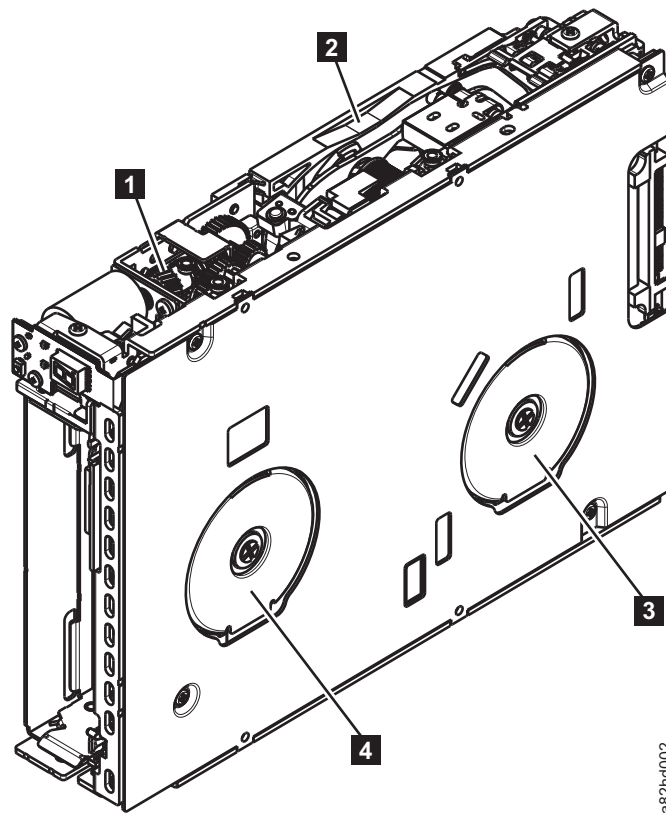

Figure E-6. Rewinding tape into cartridge
**Attention: DO NOT TOUCH THE OUTER GUIDE RAIL ( **2** in Figure E-6 on page E-7). THIS RAIL IS VERY DELICATE AND EASILY DAMAGED.**
- Turn the supply reel ( **4** in Figure E-6) clockwise, allowing the moistened tape to adhere to the hub as it winds around the supply reel (inside the cartridge).
- Continue spooling into the cartridge until the tape is taut and remains within the flanges of the tape guiding rollers. Turn the supply reel ( **4** in Figure E-6) 10 more turns. Ensure that you do not stretch the tape.